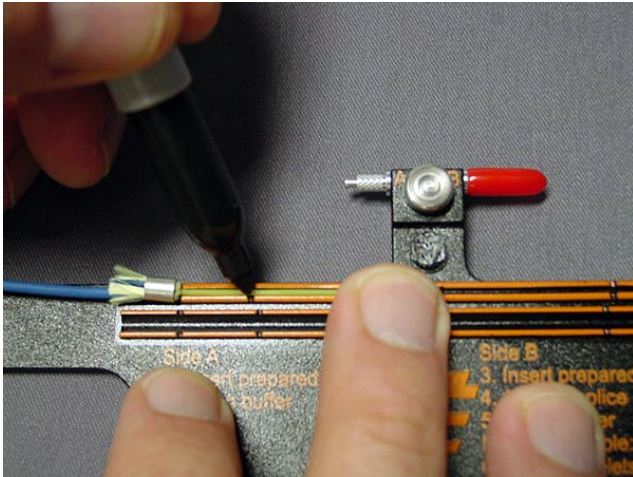

Figure 68
12. Place prepared cable into the top template and mark at slots as shown in Figure 68. Repeat for second end.